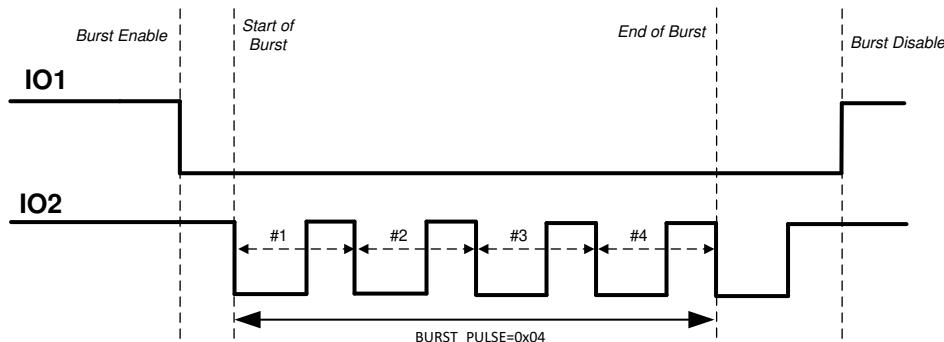

图 16. IO\_MODE 1 Description
- IO\_MODE = 1:** In this mode, the external clock for the transducer is applied at the IO2 pin and the burst mode is enabled when IO1 pin transitions low as shown in 图 16. The device then expects a clock at IO2 pin to generate pulses on the OUTA/OUTB pins. The start of burst happens from the first falling edge of IO2. The number of pulses are counted by counting falling edge to next falling edge transitions on IO2 once the start of burst is triggered. End of burst sequence is signaled when the number of pulses defined in BURST\\_PULSE are sent or or IO1 transitions high, whichever occurs earlier. TI recommends that IO2 is held high before start of burst to count the number of pulse correctly. After the start of burst, the state of OUTA and OUTB pins are determined by IO1 and IO2 pins as shown in 表 22. A transition of IO1 from low to high to low again is required to initiate a new burst sequence.